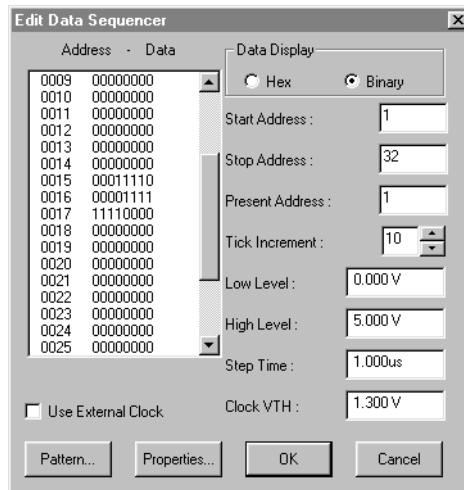

Figure 5.5. Use the Edit Data Sequencer dialog box to edit stimulus for your circuits.
You can use the Data Sequencer [General/Instruments/Data Seq] (G) device in both digital and analog simulation modes. Also known as a Data Generator or Word Generator, it allows you to specify up to 32767 8-bit words which can be output in a defined sequence. Since there is no limit to the number of Data Sequencers that you can use in a circuit, you could place several in parallel to create a data stream of any width. Double-click the **Data Sequencer** with the Arrow Tool to display the dialog box pictured in Figure 5.5.